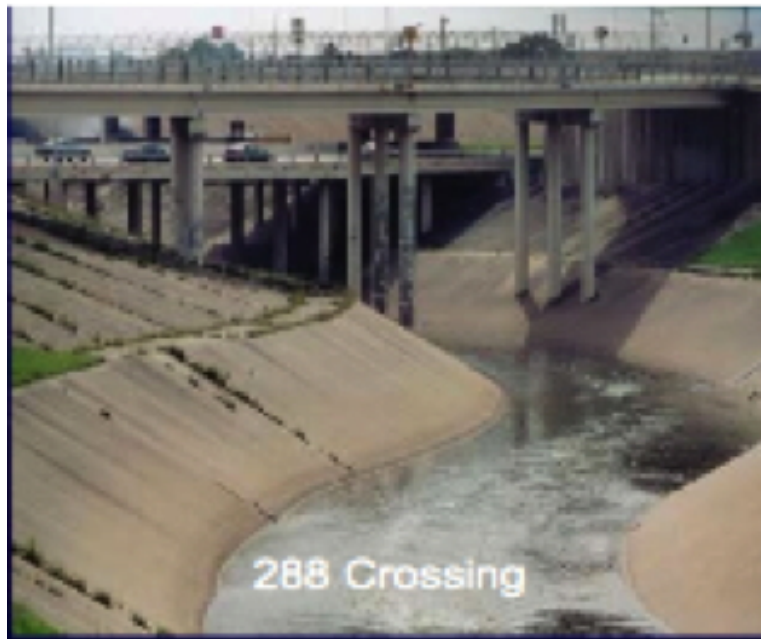

Figure 1: Braes Bayou at SH288
3. Which kind of system is depicted in Figure 1? Explain your reasoning.